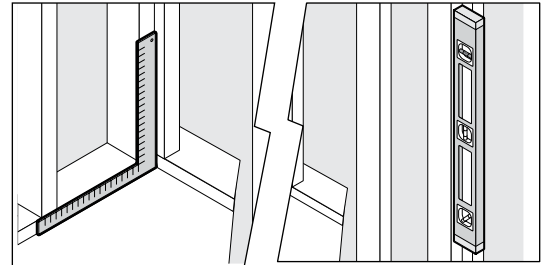

FIGURE 1. Check that studs are plumb with floor/shower.
- Check that the sub floor for the bathtub/seated base is level and studs are plumb to the sub floor. (Fig. 1)